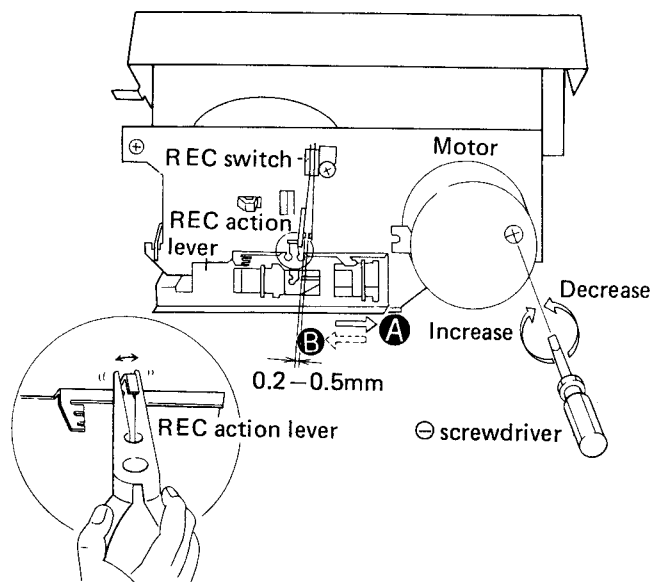

Fig. 11-2 Tape speed and REC switch adjustment
2. Playback the 3kHz portion of the STD-301 test tape. At the beginning, the frequency should be lie within the 2995Hz ~ 3010Hz range, and may be adjusted by turning the semi-fixed resistor located in the capstan motor adjustment hole as shown in Fig. 11-2.